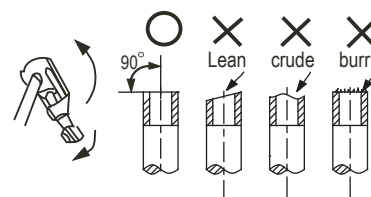

Fig 5.1
- Cut a pipe with a pipe cutter. (Refer to Fig.5-1)